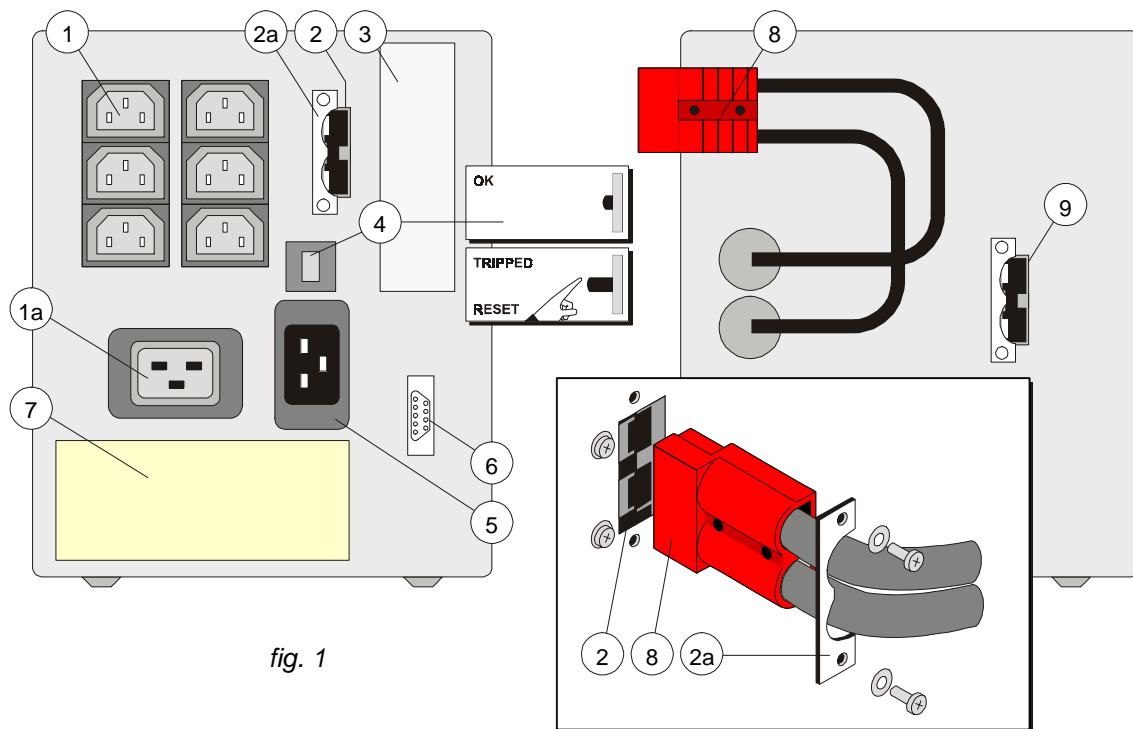
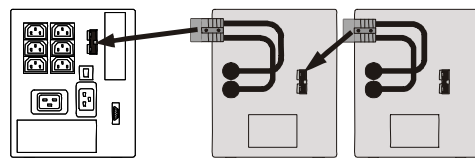
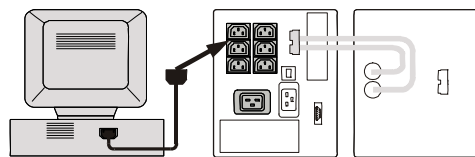
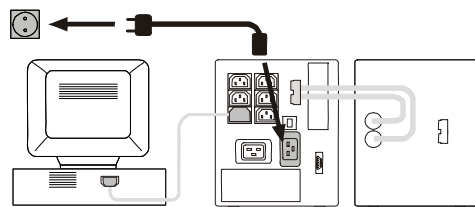

fig. 1
fig. 2
fig. 3
fig. 4
- the total power demand of the connected equipment does not exceed the rated output power of the UPS (indicated on the rating label) (7, fig. 1).
1. Loosen the two screws and remove the pull relief (2a, fig. 1). Connect the DC connector of the battery pack (8, fig. 1) to the DC socket (2, fig. 1) of the UPS. Re-install the pull relief with the two screws. Using the DC socket of the battery pack (9, fig. 1) you can install a second, third, etc. pack. See fig. 2 and section 5.1.
2. Using the output cord(s) provided, connect the computer(s) to the appliance outlet(s) (1, fig. 1) of the UPS. Spread the loads over the appliance outlets as equally as possible. If you use a distribution box to connect more than one appliance per outlet, please note that the maximum AC-current rating of each appliance outlet is 10Amps (outlets 1) or 16Amps (outlet 1a). An output cord to connect a load to outlet 1a is not shipped with the unit. See fig. 3.
3. Connect the mains power cord to the mains input socket (5, fig. 1) of the UPS. See fig. 4.
4. Connect the mains power cord to a working, grounded AC wall socket outlet. See fig. 4. The green LED 'on' (10, fig. 6) will blink, and after 30 seconds illuminate continuously: the unit has switched on, output power is available.
6. For advanced communication possibilities, the RS232 interface port (6, fig. 1) can be connected to a computer system and/or optional interface cards (3, fig. 1) can be added. See chapter 4.